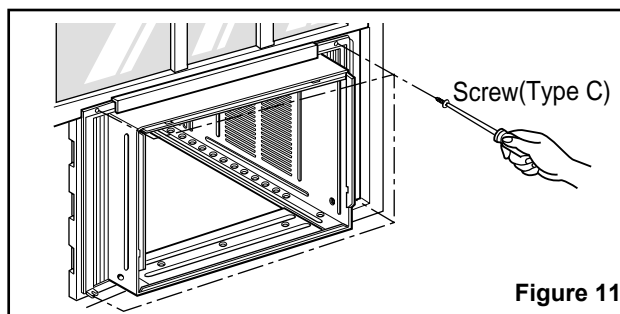

Figure 11
6. Attach each Frame curtain the window sash by using screws (Type C.) (See Fig. 11)